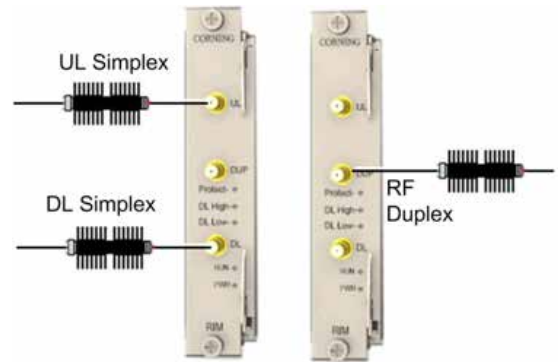

Figure 7: RIM RF Source Simplex/Duplex Interfaces
- Step 1:** For each RIM – connect the RF coax cable to the RIM's simplex or duplex QMA connectors. See Figure 7.